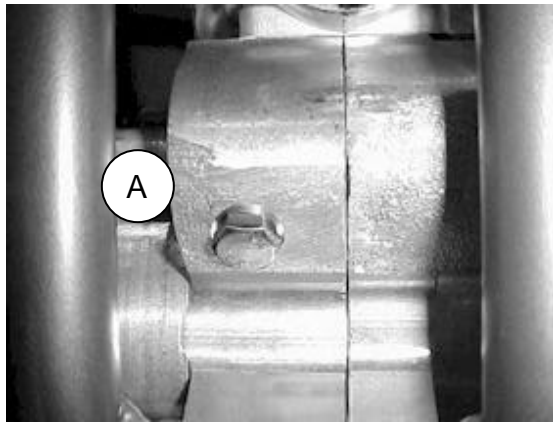

Figure 22
1. Remove the coolant drain plug (A) on the front of the engine case (figure 22).